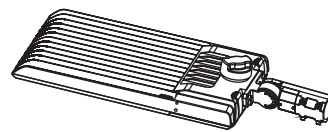

Figure 3
3. Reassemble the slipfitter assembly pieces together by tightening the M10 × 40mm bolt in the center of the adjustment knuckle. (Figure 3)